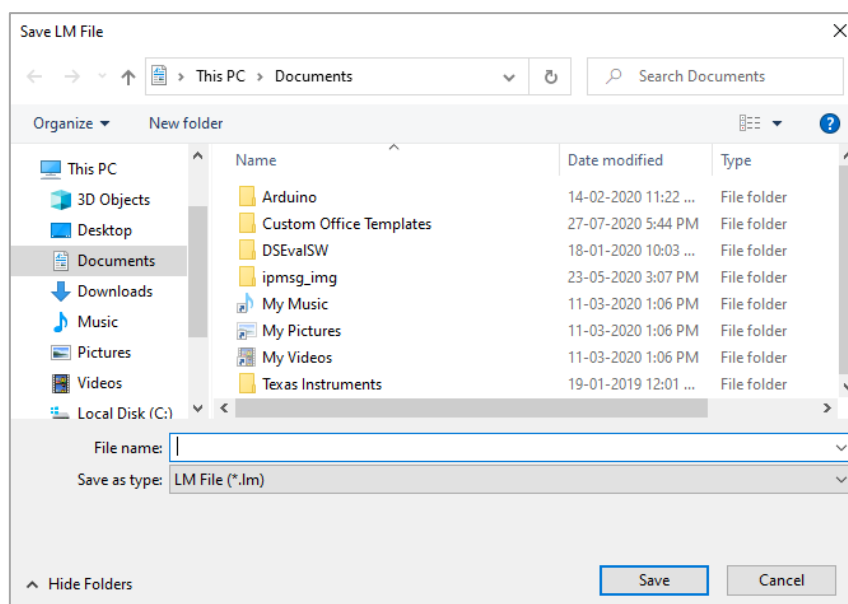

Figure 13 Selecting file location for saving data summary
- Select the download option, choose the appropriate file path and batch file name for saving the data file and press  button in the pop-up window as shown in figure 13.